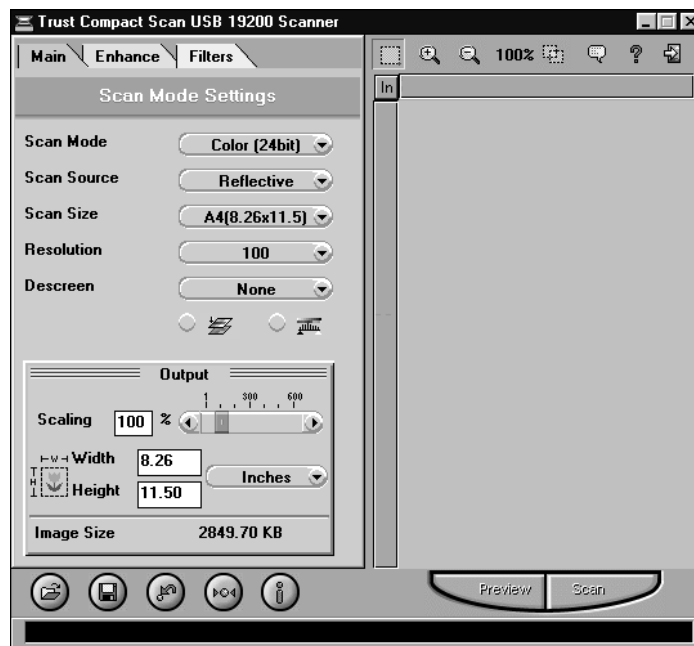

Figure 25: TWAIN dialog window
5. Return to the file menu and click on 'Acquire', usually located next to the 'Select' command. The TWAIN dialog box will pop up (Figure 25).